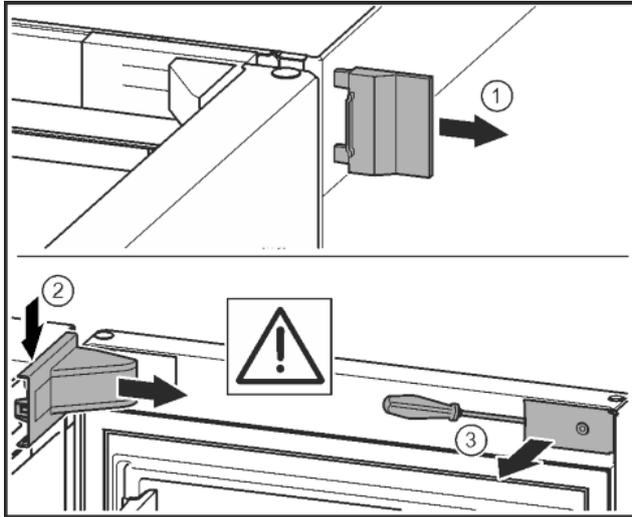

Fig. 8
- ▶ Remove the outer cover. Fig. 8 (1)
- ▶ Unlatch and undo the bearing bracket cover with a screwdriver. Remove the bearing bracket cover. Fig. 8 (2)
- ▶ Unlatch the cover plate with a slotted screwdriver and swivel it to one side. Fig. 8 (3)